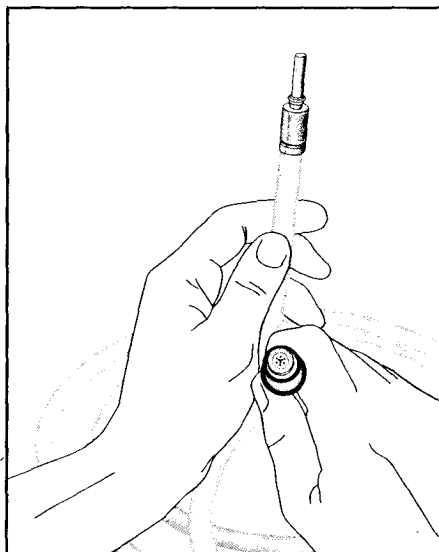

Figure 6
2. While aiming one end of the cable toward a bright light, inspect the other end for damaged fibers, e.g., black dots or dark gray areas (Figure 6). A combination of broken fibers in the cable or endoscope will result in reduced light transmission. The combined percentage of dark spots viewed in the cable end should not exceed 20% of its total area.